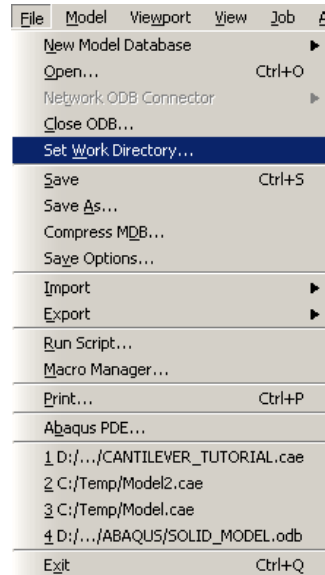

Figure 27. Set Work Directory
- To ensure that the input files write to the correct folder, setting the work directory must be accomplished. At the top of the screen, click **File** and in the dropdown menu click **Set Work Directory...** (Figure 27).